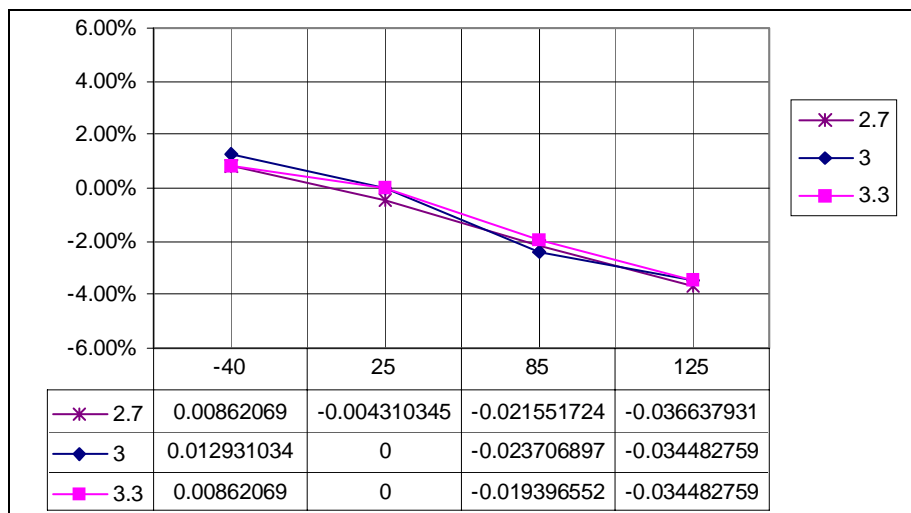
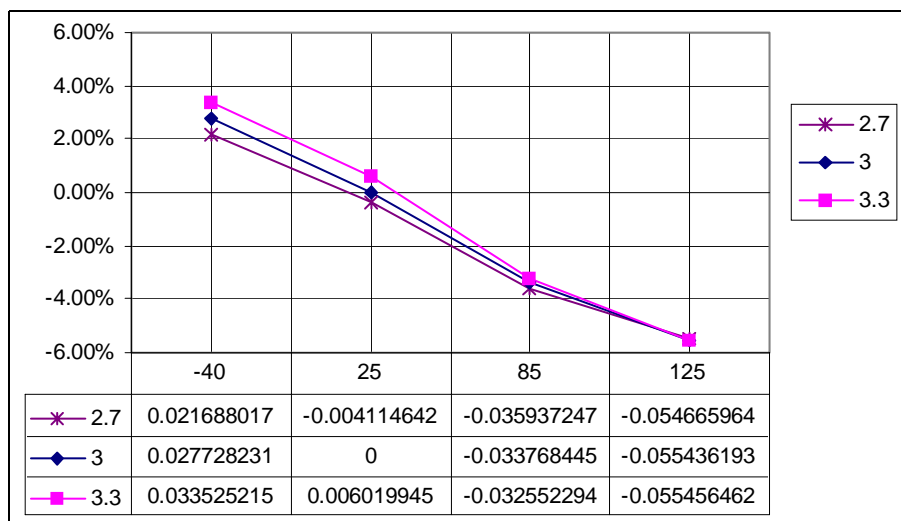
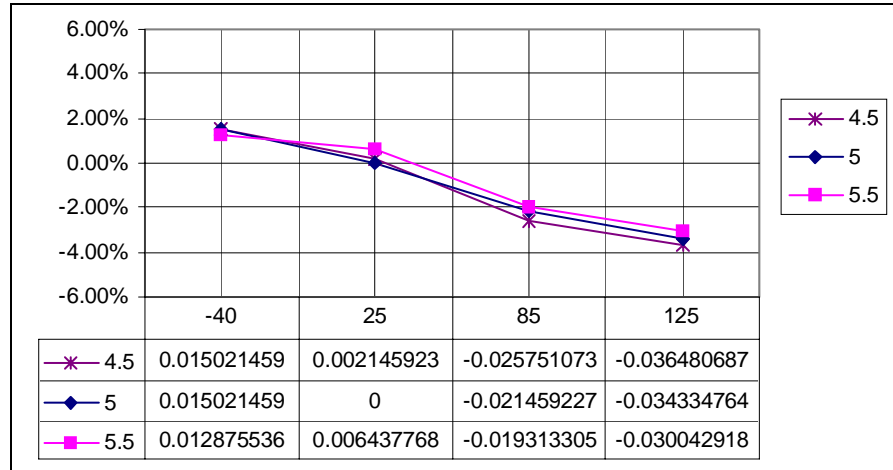
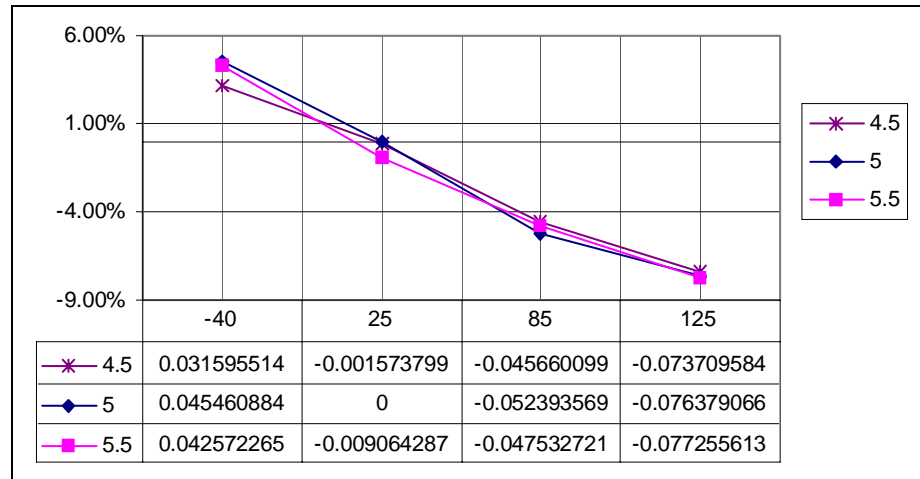

Figure 20-1. Example of Frequency Variation Across Temperature, Trimmed at Nominal 3 Volts, 25°C, and N = 1
Figure 20-2. Example of Frequency Variation Across Temperature, Trimmed at Nominal 3 Volts, 25°C, and N = 104
Figure 20-3. Example of Frequency Variation Across Temperature, Trimmed at Nominal 5 Volts, 25°C, and N = 1
Figure 20-4. Example of Frequency Variation Across Temperature, Trimmed at Nominal 5 Volts, 25°C, and N = 104
Figure 20-1 through Figure 20-4 illustrate typical performance. The formula for this variation of frequency is (measured-nominal)/nominal. Figure 20-1 shows the variation in ICG frequency for a part trimmed at nominal voltage and temperature across V_{DD} and temperature for a 3-V application with multiply register (N) set to 1. Figure 20-2 shows 5 V.
Figure 20-3 and Figure 20-4 shows N set to 104, hex 68, which corresponds to an ICG frequency of 31.9 MHz or 7.9 MHz bus.